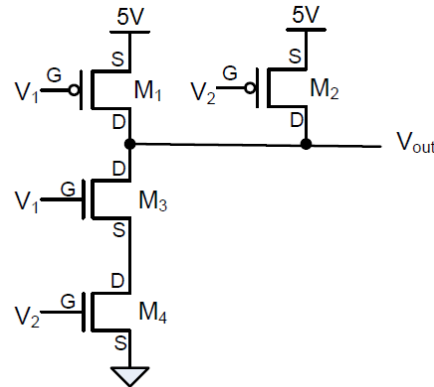
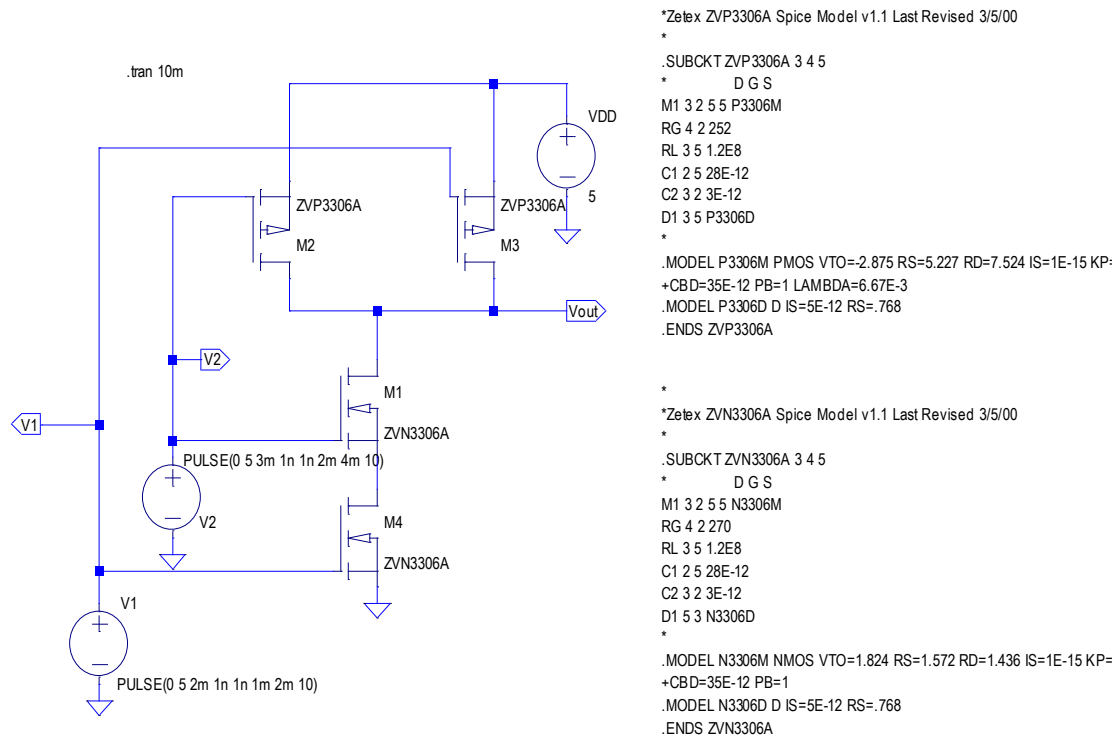

Figure 5. A 2-input Boolean circuit. The Boolean function will be identified in the lab assignment.
Figure 6. LTspice model of the 2-input Boolean circuit shown in Fig. 5.
By adding more transistors as illustrated in Fig. 5, we can create Boolean functions rather than just inverters. These circuits form the basis for implementing digital logic.
Figure 6 shows the LTspice model of the Boolean circuit shown in Fig. 5. Notice the orientation of the PMOS transistors. Since the source terminal is internally tied to the substrate, the drain and source are not interchangeable.
LTspice internally includes a small number of NMOS and PMOS transistors. To introduce a new transistor, a sub-circuit is typically needed as shown in Fig. 6. A sub-circuit allows you to define a collection of elements as one element (e.g. a MOSFET and an Op-Amp) and to insert this description into the overall circuit. A sub-circuit is defined by a .SUBCKT control statement, followed by the circuit description. Both NMOS and PMOS transistors used in this lab can be found at www.diodes.com. Figure 6 shows the op codes for them.
11. Construct the CMOS 2-input logic gate shown in Figure 5. Connect the inputs labeled V_1 together, and connect the inputs labeled V_2 together. Connect the inputs to all possible combinations of logic 0 (ground) and logic 1 (5 V), and record the output voltage and its corresponding logic value. Create a truth table and show the measurement results verifying the type of gate that was created.